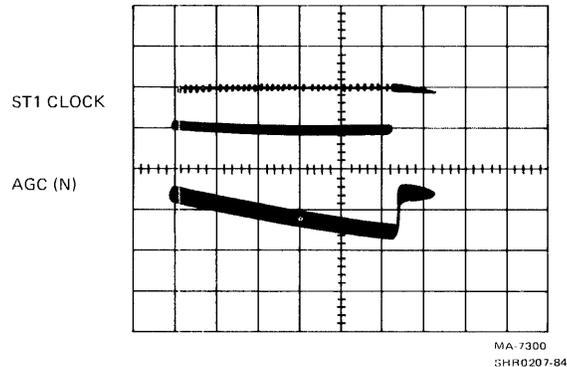

Figure 5-21 Automatic Gain Control
- g. The trace on Ch1 should have a series of 32 positive going ST1 CLOCK pulses displayed, each with a period of 850 us +85 us. Refer to Figure 5-21. Position the Ch2 trace (straight line) on the bottom graticule of the screen.
Make sure the scope probe is grounded to the preamp to eliminate unwanted noise. Refer to the lower trace shown on Figure 5-21. The waveform dc level should start at about +1.7 V (PE gain level) and ramp down, in a staircase pattern, to about +1.2 V.